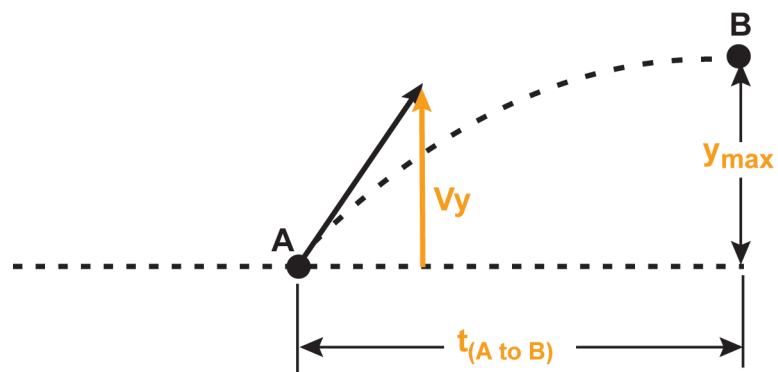

Figure 18
- 3. Figure 18 shows the data needed to find the maximum height that the ball reaches. The time $t_{(A \text{ to } B)}$ is one half of the time from point A to point C. Enter $t_{(A \text{ to } B)}$ in Data Table 7.